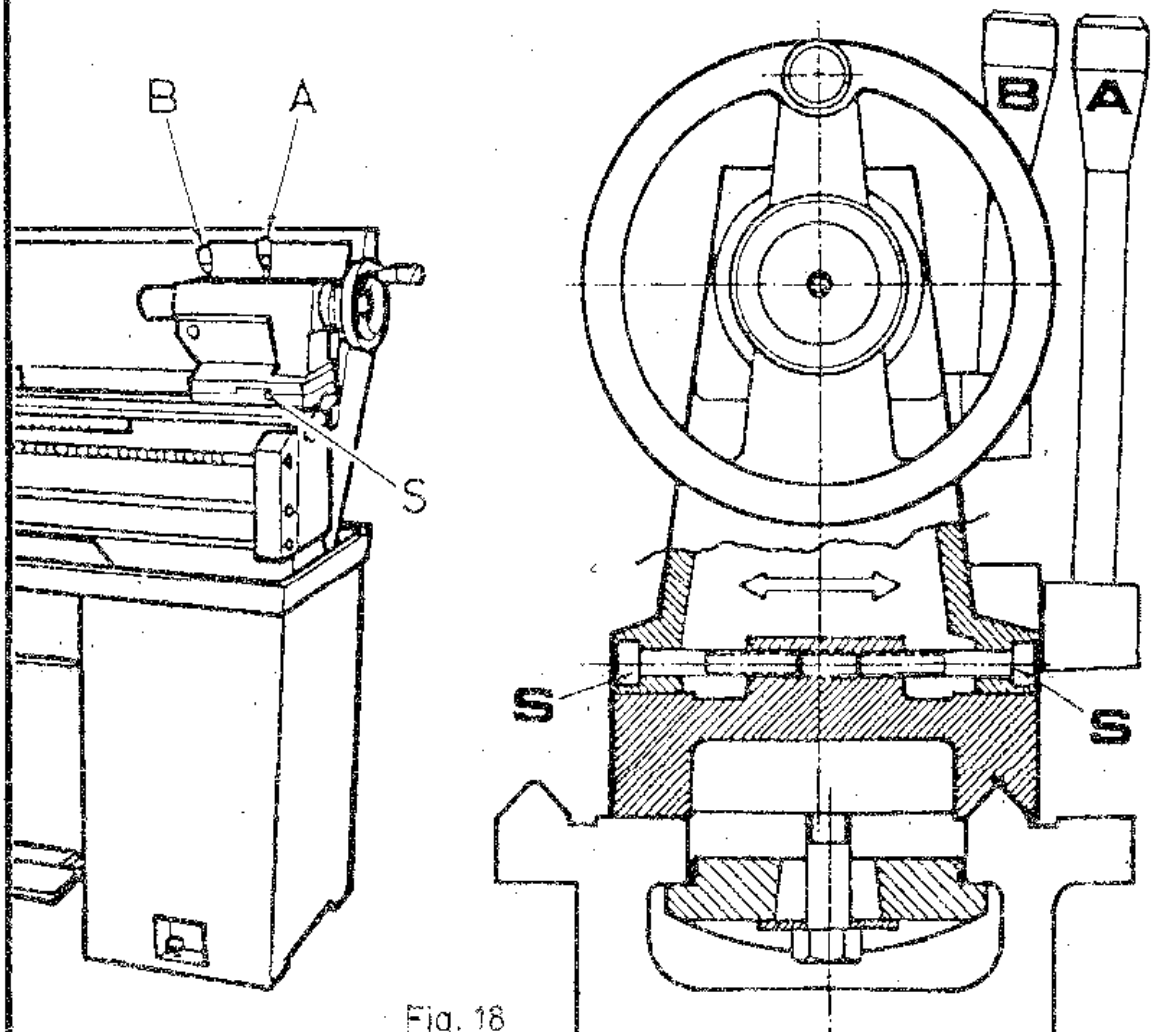

Fig. 18
The tailstock can be set-over for production of shallow tapers or for re-alignment. Release the clamping lever and adjust screws (S) at each side of the base to move tailstock laterally across the base. An indication of the setover is given by the datum mark (C) at the tailstock end face, as shown in Fig 18. Apply clamp lever after adjustment of set-over.
To correct a difference in readings, slacken and release the four headstock hold-down screws (J) shown in Fig 18 and adjust the set-over pad (K) beneath the headstock. Then tighten all screws. After adjustment, repeat the test-cut/micrometer-reading until micrometer readings are identical so that machine cutting will be absolutely parallel.